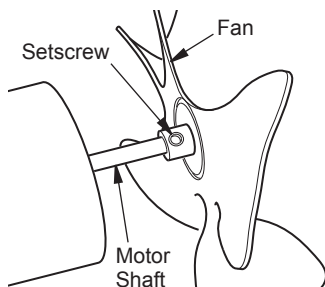

Figure 8 - Fan, Motor Shaft, and Setscrew Location
IMPORTANT: Remove fan from motor shaft before removing motor from heater. The weight of the motor resting on the fan could damage the fan pitch (see Figure 8).
3. Use 1/8" Allen wrench to loosen setscrew which holds fan to motor shaft (see Figure 8).